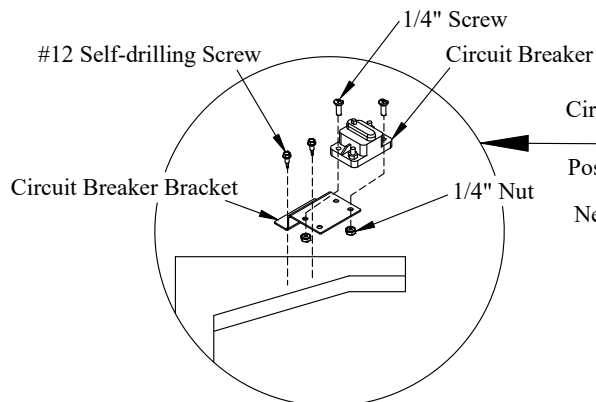

Figure 16: Circuit breaker bracket.
1. **Install** the circuit breaker on the circuit breaker bracket with 1/4" screws and nuts (Figure 16).